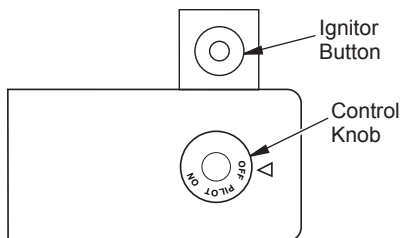

Figure 17 - Control Knob and Ignitor Button Location (Shown as Supplied, No Control Options)
5. Wait five (5) minutes to clear out any gas. Then smell for gas, including near the floor. If you smell gas, STOP! Follow "B" in the safety information. If you don't smell gas, go to the next step.
6. Press in and turn control knob counterclockwise  to the PILOT position. Press in control knob for five (5) seconds (see Figure 17).